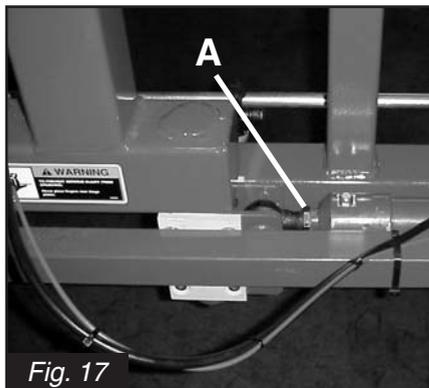

Fig. 17
The horizontal alignment of the wings is done by adjusting the retracted tilt cylinder (Fig. 17). The boom tip must point slightly upward. If necessary, adjust the wing as follows:
2. Loosen jam nut (**A**)(Fig. 17).